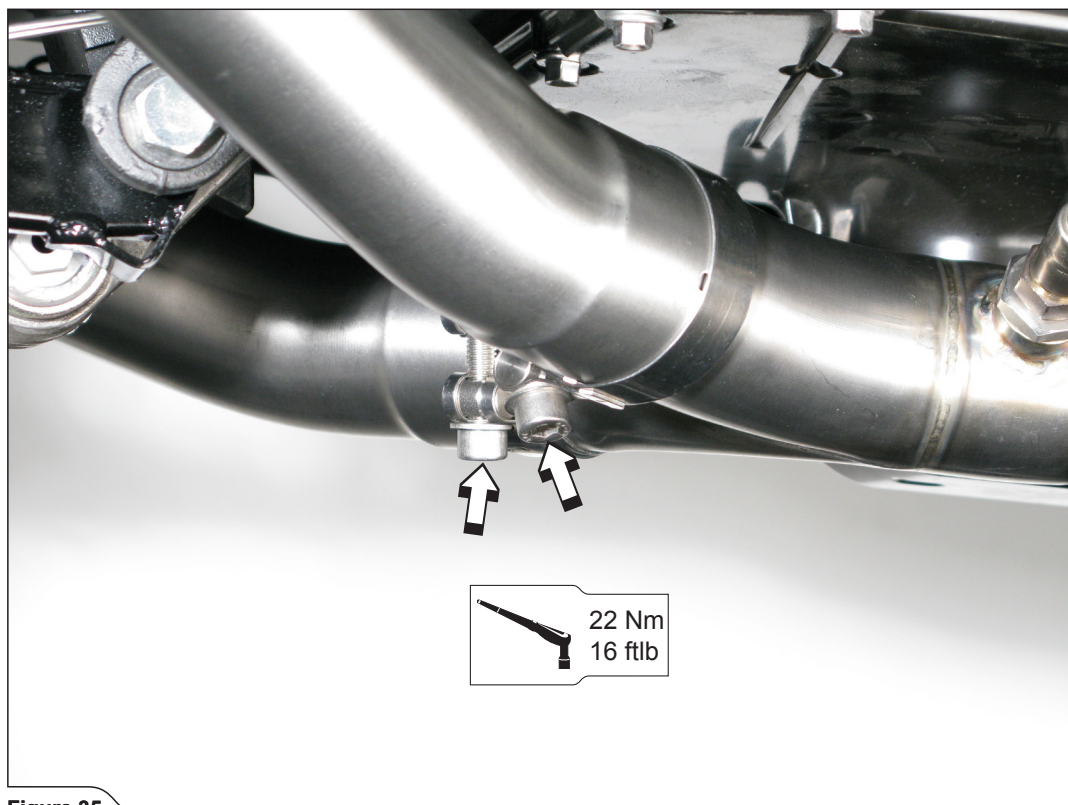

Figure 35
15. Tighten both metal clamps at the Akrapovič link pipes/collector joint to a specified torque (**Figure 35**).